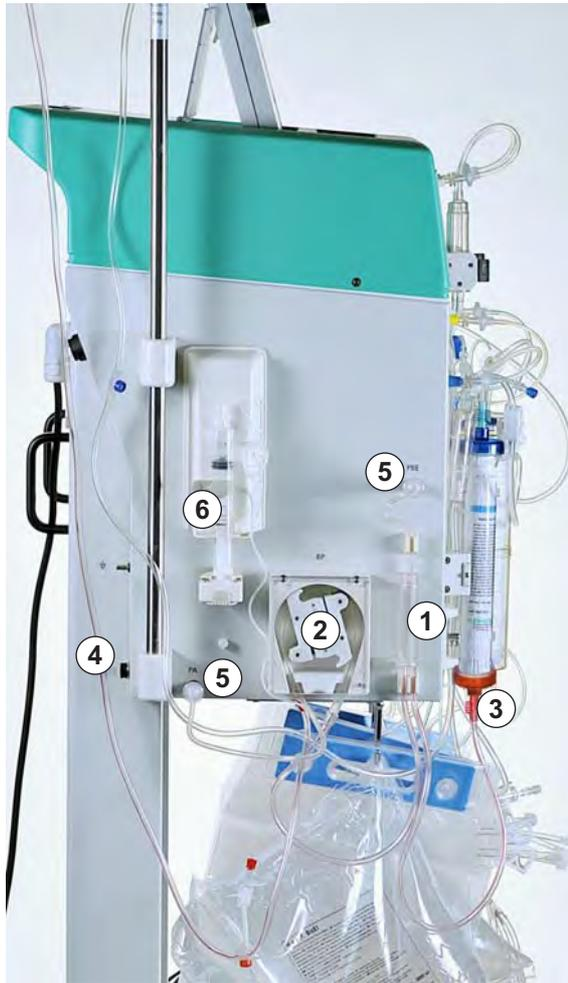

Fig. 5-13 Setting-up the arterial line
1. Place arterial chamber into the holder (Fig. 5-13, ①).
2. Place pump segment of arterial line with red marking on left side into blood pump (Fig. 5-13, ②).
3. Connect arterial feeder line to inlet of plasma filter (Fig. 5-13, ③).
4. Connect arterial line (Fig. 5-13, ④) to the 3 l saline bag hanging on infusion pole.
5. Screw on the two pressure transducers (Fig. 5-13, ⑤).
8. Mount syringe on holder of heparin pump (Fig. 5-13, ⑥).